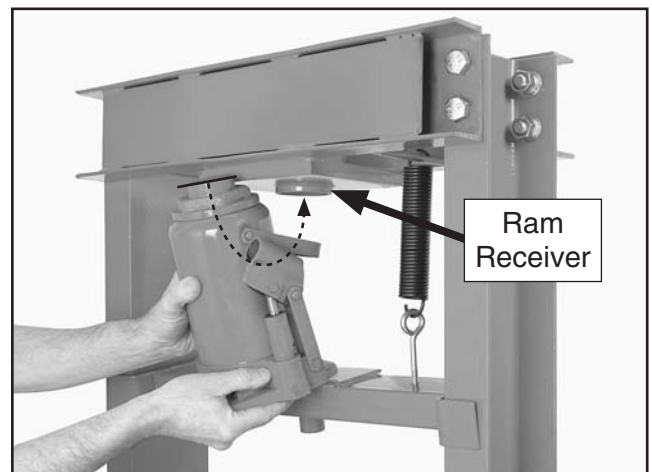

Figure 11. Jack installation.
- With the help of an assistant, place the fully compressed bottle jack onto the press plate, push down on the jack to stretch the springs slightly, and swing the jack into position so the ram slides up into the ram receiver, as shown in **Figure 11**.